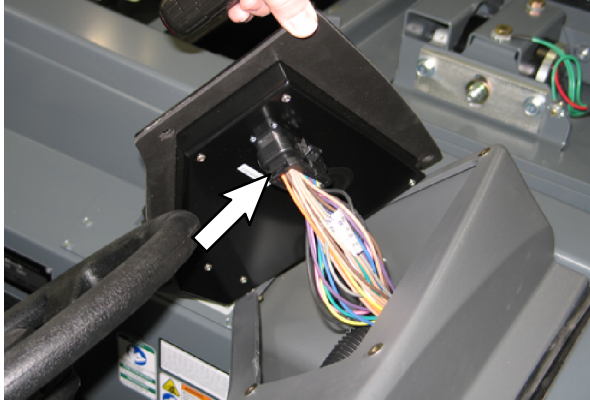

FIG. 2
4. Disconnect the main wire harness from the panel assembly. Refer to Fig. 2.
1. Connect the main wire harness to the new panel assembly (1). Refer to Fig. 2.